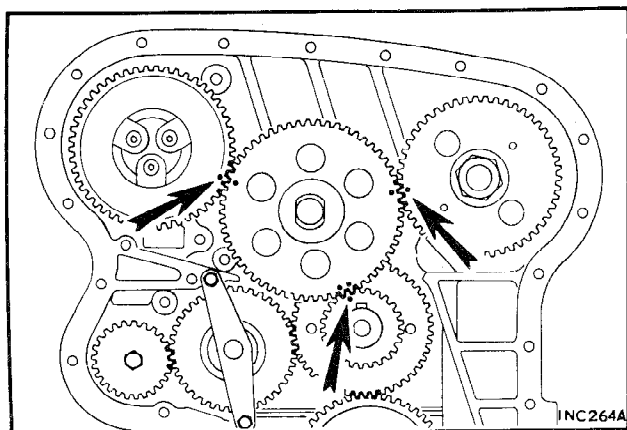

Fig. 2
- b. Disengage the main idler gear, fit the injection pump drive gear and cap to the pump camshaft, aligning the slot in the gear with the pin on the shaft. Secure the gear with the Allen screws. Engage the main idler gear so that the timing marks are positioned as shown in Fig. 2.